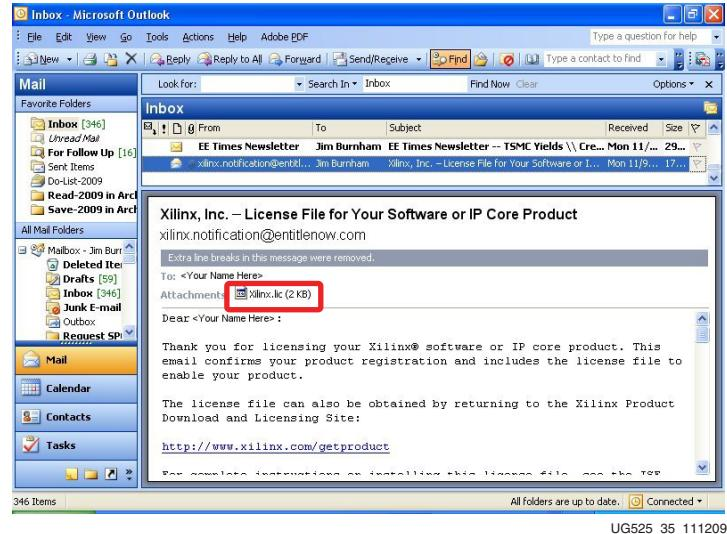

Figure 1-65: Xilinx License Notification E-mail
7. When license generation is complete, the license will be emailed to you. Follow the instructions in the Xilinx License email to complete the licensing process (Figure 1-65).